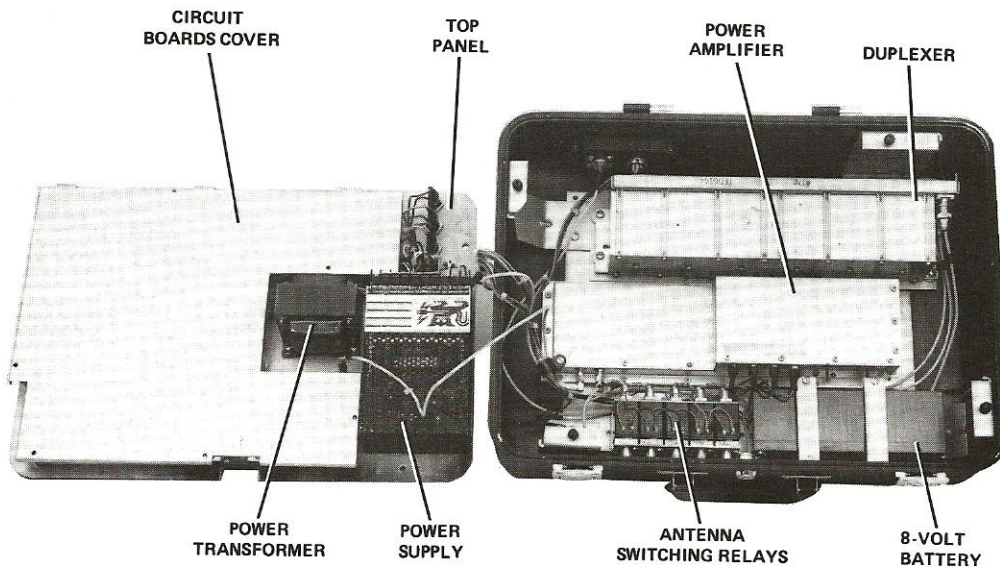

Figure 4-1. Top Panel Removed
(2) Remove four Phillips-head screws and washers from the top control panel.
(3) Remove three knobs (frequency select, volume, and squelch) by loosening the Allen-head set screws (two per knob).
(4) Lift off the escutcheon portion of the top panel.
(5) Lift off the top control panel, invert it, and carefully set it aside to the left of the bottom case.
b. Control Board Removal (Figures 4-1, 4-2, and 4-3)
(1) Remove five hex-head screws and lockwashers from control board cover and remove cover from three hinged brackets.
(2) Remove four pan-head screws from main control board.
(3) Flip top control panel over and remove four flat-head screws from panel.
(4) Reinvert top control panel and remove complete control board assembly.